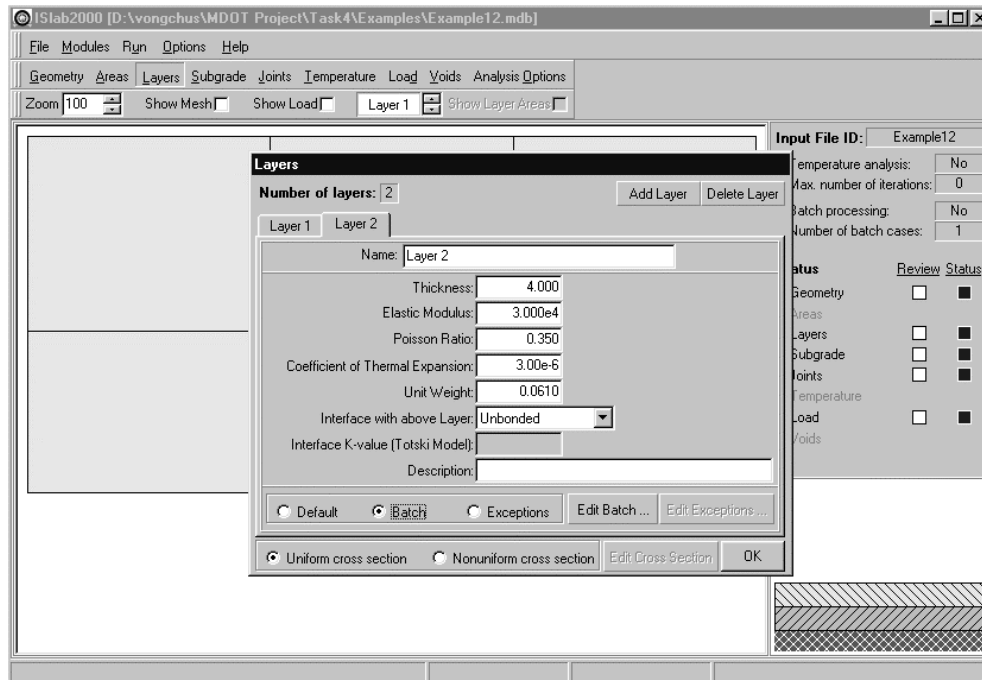

Figure E12-2: Edit Inputs for the Layers Module
(see Figures E12-2 and E12-3)
- Step 5: Select **Batch** and then click **Edit Batch** to open the layer 2 properties panel (see Figure E12-2).